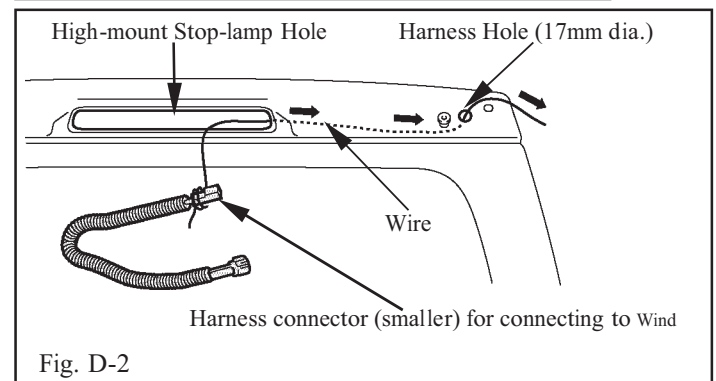

Fig. D-2
- ➔ 2. Tie jumper harness connector (smaller connector) to wire, and pull through harness hole. (Fig. D-2)